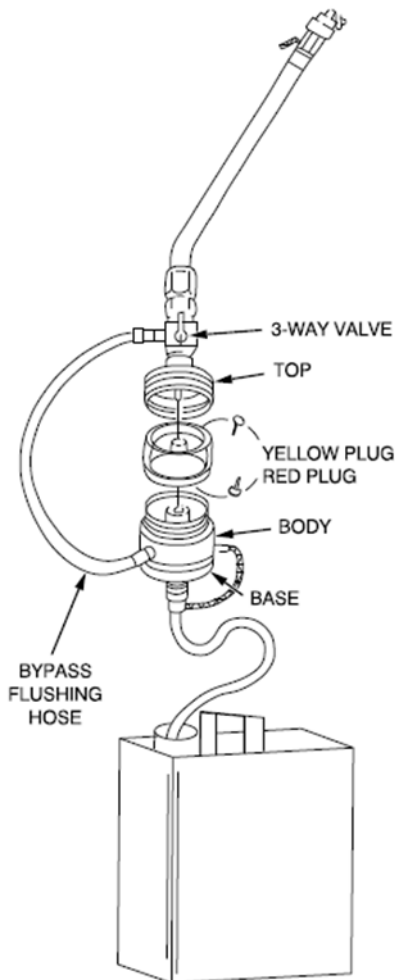

Figure 1: Overview of MWM Test Equipment
1. Summary of Test Method. A 1 gallon sample of aviation turbine fuel is taken from an in-line sample port downstream of a filter/separator while fuel is flowing and filtered through a monitor that contains two matched weight membrane filters. The matched weight monitor (MWM), commonly referenced by the Millipore tradename, is identified by the yellow and red protective plugs. An illustration of the test equipment is shown in Figure 1. Once the sampling process is complete, the remaining fuel inside is removed from the outlet side of the monitor and the MWM is packaged for submittal to the nearest petroleum laboratory.